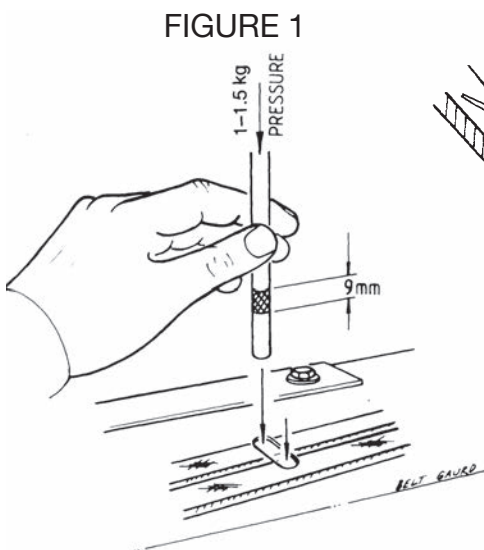
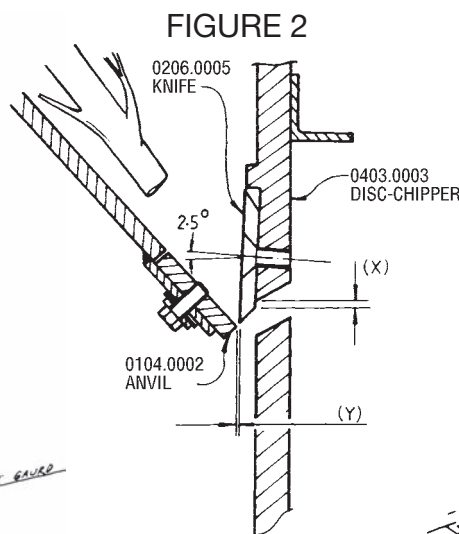

FIGURE 1
FIGURE 2
- 5) **SHREDDER HOPPER** (See Figure 1) As the engine ignition begins, the engine shaft operates freely until approximately 1400-1600 rpm at which speed the centrifugal clutch engages and begins driving the rotor. Proper rotor rpm is 2900 rpm with a plus or minus tolerance of 100 rpm. Four rows of hammers shred material until it reaches such size to allow it to pass through the grinding screen. The grinding screen retains the material within the grinding chamber for several seconds until the free-swinging hammers have rotated several times. The number of cuts by the hammers and retention time within the chamber varies with each organic material type.
- 6) **CHIPPER CHUTE** (See Figure 1) Branches are fed into the side hopper for chipping. One at a time if they are thicker than 50mm, several together if of small diameter. The throat opening is approximately 80 mm square. Some side shoots or side branches may have to be trimmed from the main stalk before chipping. Short stubs of branches may be pushed through the chipper section with the next branch. Never assume you know where the blade is, and try to push short branches in by hand.
- 10) Always stand clear of the discharge area when the shredder is running. (See Figure 1)
**NOTE:** The blade life is determined by the point where the bevel face meets the slot in the chipper disc. See Fig 2. Dim. (x) **WARNING:** Do not exceed the point as the blade may fail.
- xi) Close access flap and tighten screws item 12.
7. After the blade is sharpened, the gap Dim. (y) (Fig. 2) Between the blade and anvil (0104-0002) must be checked. This gap should be 1.0 mm to 1.2 mm at outside circumference of blade and 0.4 mm to 1.2 mm at inside circumference of blade.
- ii) Observe drawing No. 1& 2 and Fig. 2.
9. If it becomes necessary to disassemble the chipper for repairs, the chipping disc (6) (0403-0003) **must be installed in exactly its correct position on the shaft.** Refer Drawing 2.
10. The Belt tension will need to be checked regularly. Refer Fig. 1.